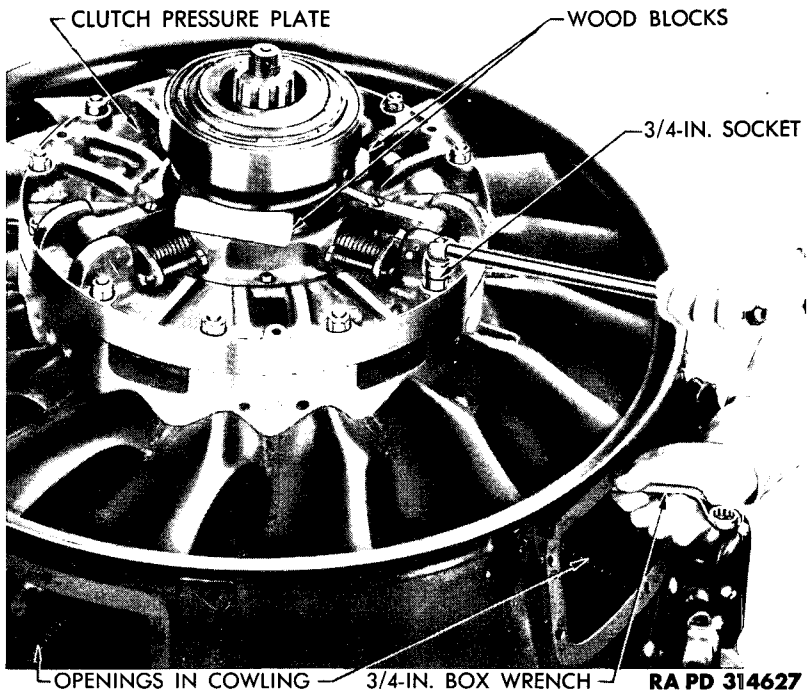

Figure 19 – Removing Clutch Pressure Plate Retaining Nuts
b. **Remove Flywheel Ring and Pressure Plate.** With screwdriver, loosen six Dzus fasteners from each of four covers attached to engine cowling (fig. 19). Remove four covers. Insert two snug fitting wood blocks between clutch throw-out bearing flange and face of pressure plate. Reach through cover openings, one at a time, with $\frac{3}{4}$ -inch wrench and hold bolt heads (fig. 19). Loosen 12 nuts on bolts which hold flywheel ring and pressure plate to flywheel. Remove nuts. Install jack screws through three holes in flywheel ring. Turn